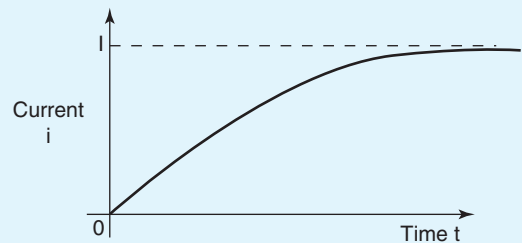

Figure 18.21
18. The graph shown in Fig. 18.21 represents the growth of current in an $L - R$ series circuit connected to a d.c. voltage V volts. The equation for the graph is: